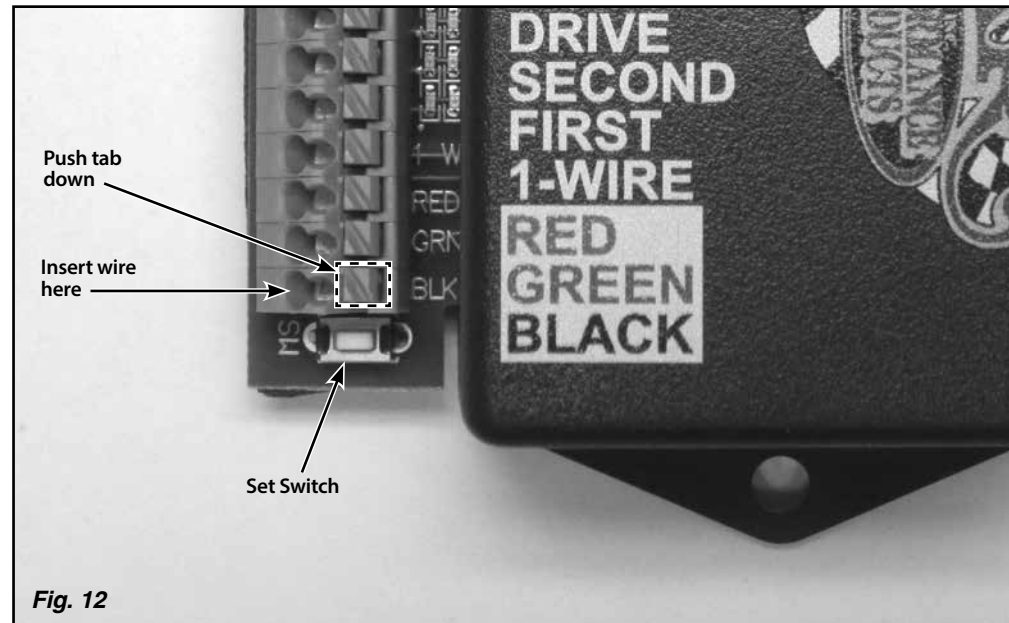

Fig. 12
The sensor has a 10 foot long gray cable attached to it. This cable contains 3 wires which connect to the decoder box. To connect the wires to the decoder box, push down on the tab to insert the wire into the terminal on the decoder box. **Fig. 12** Connect the red wire to the terminal marked "RED". Connect the green wire to the terminal marked "GREEN". Connect the black wire to the terminal marked "BLACK".
Step 2: Press and hold the set switch. **Fig. 12** Turn the ignition key on while holding the set switch down. Then release the set switch.